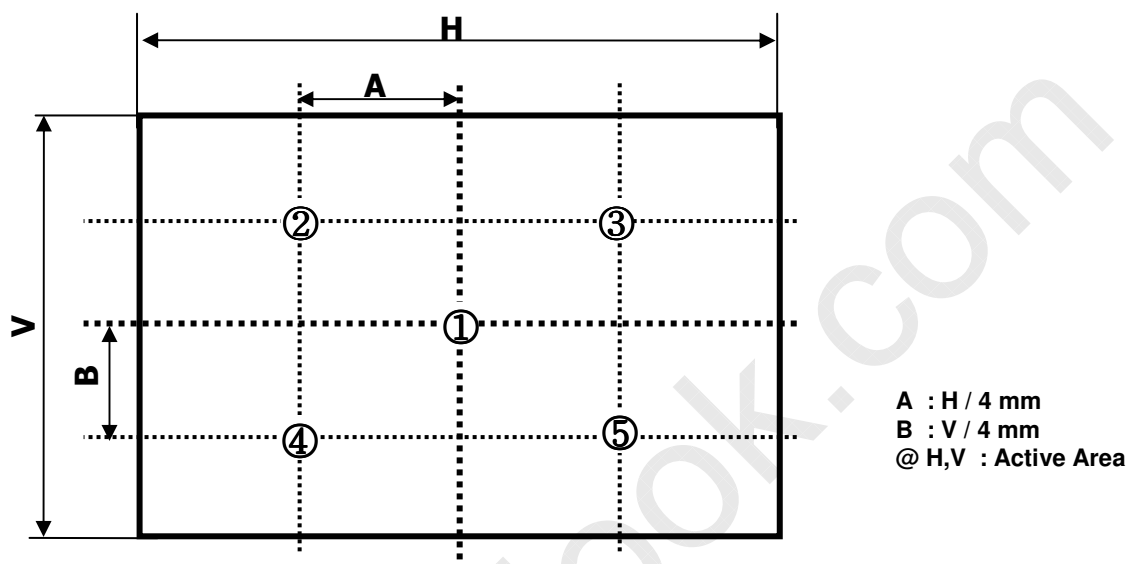

FIG. 2 5 Points for Luminance Measure
2. Surface luminance are determined after the unit has been 'ON' and 1 Hour after lighting the backlight in a dark environment at $25 \pm 2^{\circ}\text{C}$. Surface luminance is the luminance value at center 1-point across the LCD surface 50cm from the surface with all pixels displaying white. For more information see the FIG. 2.
For more information, see the FIG. 2.